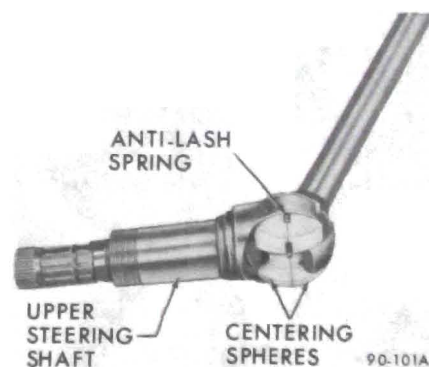

Figure 90-140 - Steering Shaft and Centering Spheres
22. Disassemble steering shaft assembly by removing centering spheres and anti-lash spring. See Figure 90-140.